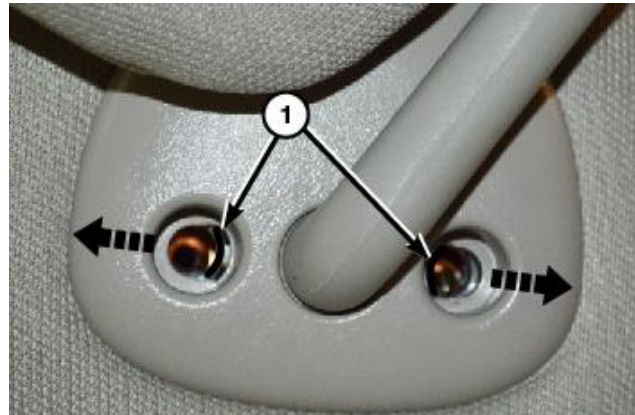

Figure 28 – Visors
Using a small flat bladed tool or equivalent, release the retaining tabs (1) and separate the visor from the headliner (Figure 28).